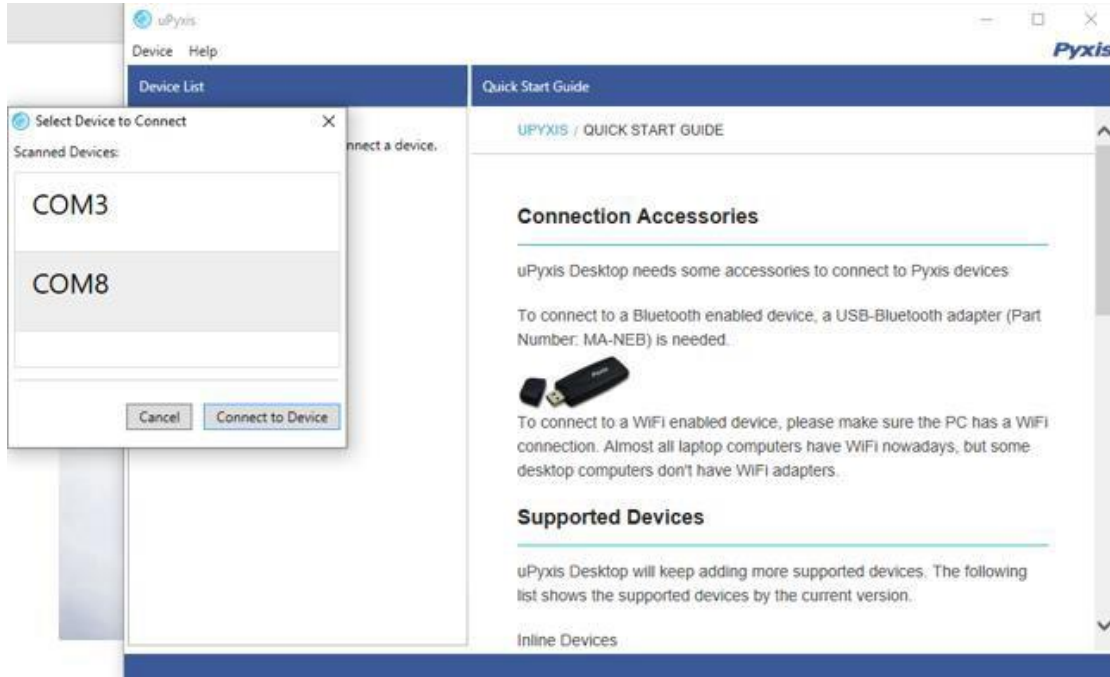

Figure 19 - Select a Comm Port
- 7) Select the Comm Port to make a connection. Normally only one Comm port is identified by uPyxis (*Figure 19*). If more than one Comm port listed in the selection dropdown, you may try to select each one to see if a connection can be made. Alternatively, you may use the Windows Device Manager to identify the Comm Port that the Pyxis USB adapter is using.